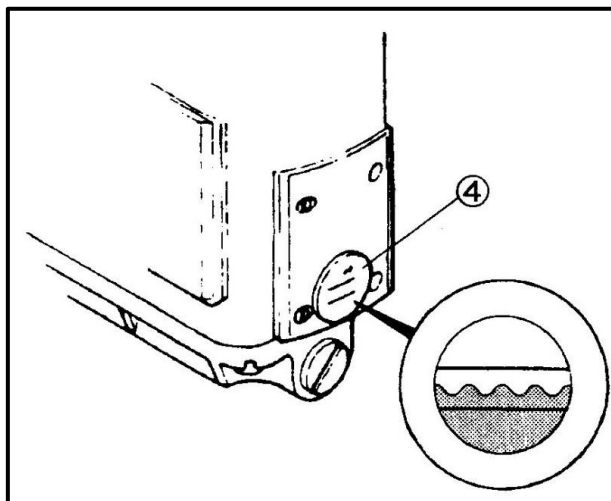

Fig.14
- (1) Remove the plug screws ① and ② indicated " OIL " and supply oil.
- (2) From the plug screw ①, supply oil until the oil level indicator top reaches the upper line in the oil sight gauge ③. From the plug screw ②, supply oil to the upper line in the oil sight gauge ④. (Fig.14)
- (3) Check the oil level between the lines in the oil sight gauge ③ and ④ before running a machine. If it is under the lines, supply oil.
- (4) Check the oil splashes from the nozzle inside the oil sight top windows ⑤ and ⑥ when starting to run a machine.